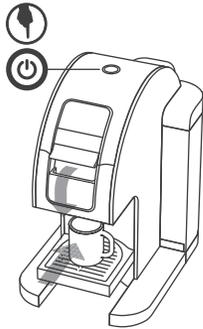
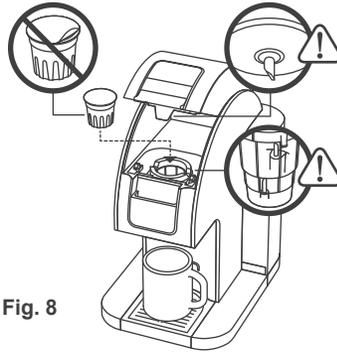

Fig. 7
Fig. 8
2. Pull on the Latch to open the Cover. (Fig. 7) Insert a desired Pod into the Red Cup Holder. (Fig. 8)
**NOTE:** DO NOT remove the foil lid or puncture the Pod. (Fig. 8) When using a smaller cup, the Drip Tray may be inserted into the Upper Slot to minimize splattering of coffee. (Fig. 7)
**CAUTION:** There are three sharp Needles that puncture the Pod: a top Needle underneath the Cover and two bottom Needles in the Red Cup Holder. To avoid risk of injury, do not put your fingers in the Red Cup Holder. (Fig. 8)